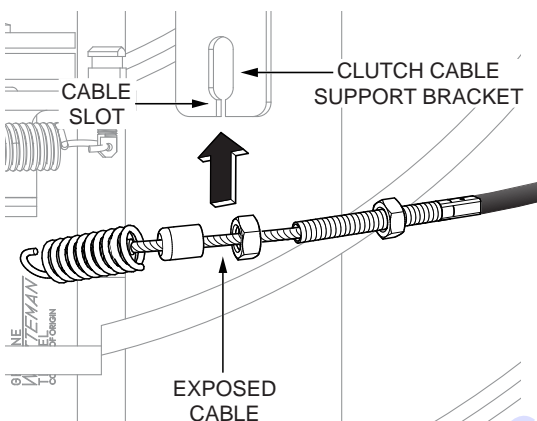

Figure 18. Clutch Cable Insertion
- Insert the exposed cable into the cable slot on the clutch cable support bracket (Figure 18).